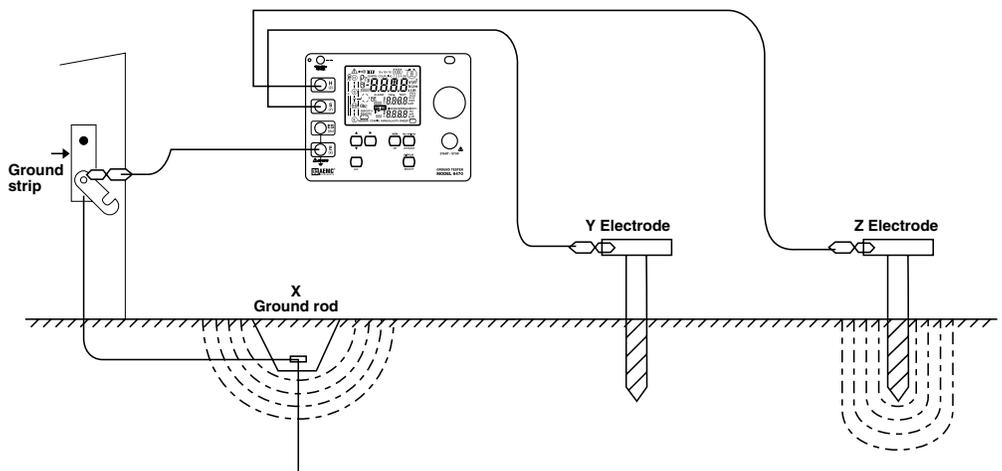

Figure 22
**E**xcessive noise may interfere with testing because of the long leads used to perform a Fall-of-Potential test. A voltmeter can be utilized to identify this problem. Connect the “X”, “Y” and “Z” cables to the auxiliary electrodes as for a standard ground resistance test. Use the voltmeter to test the voltage across terminals “X” and “Z”. (See Figure 22)